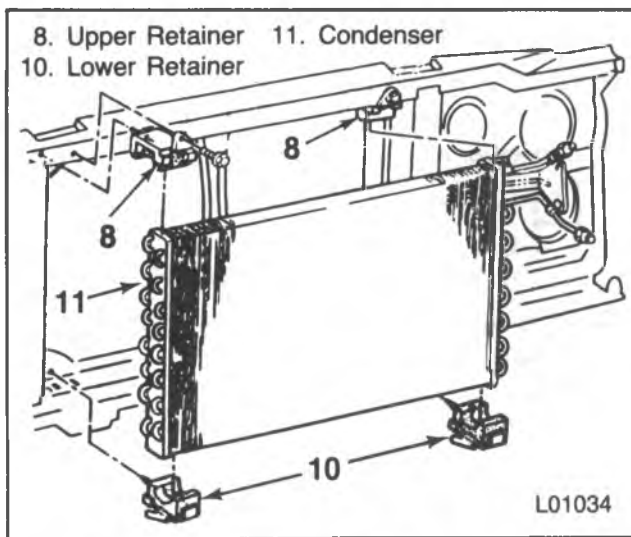

Figure 38 — Condenser Replacement
7. Condenser to radiator support screws (figure 38).